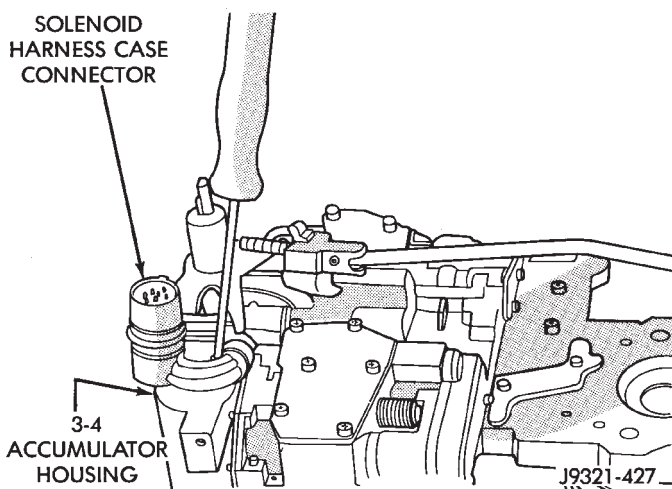
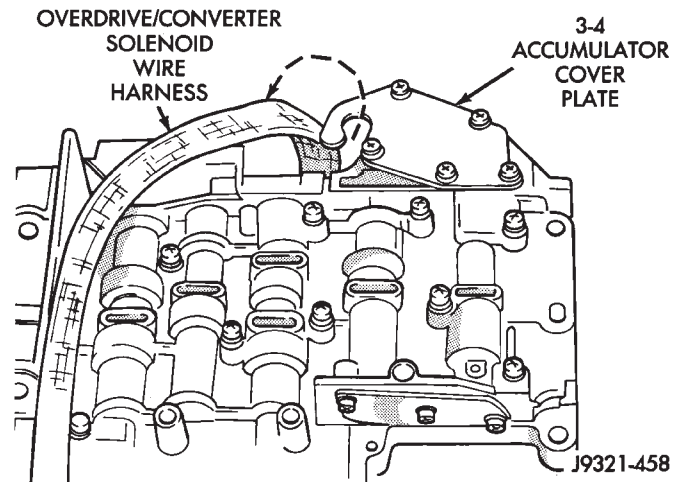

Fig. 112 Solenoid Harness Case Connector Shoulder Bolt
Fig. 113 Solenoid Harness Routing
(6) Attach solenoid case connector to 3-4 accumulator with shoulder-type screw. Connector has small locating tang that fits in dimple at top of accumulator housing (Fig. 112). Seat tang in dimple before tightening connector screw.
(7) Install solenoid assembly and gasket. Tighten solenoid attaching screws to 8 N·m (72 in. lbs.) torque.
(8) Verify that solenoid wire harness is properly routed (Fig. 113). **Solenoid harness must be clear of manual lever and park rod and not be pinched between accumulator housing and cover.**